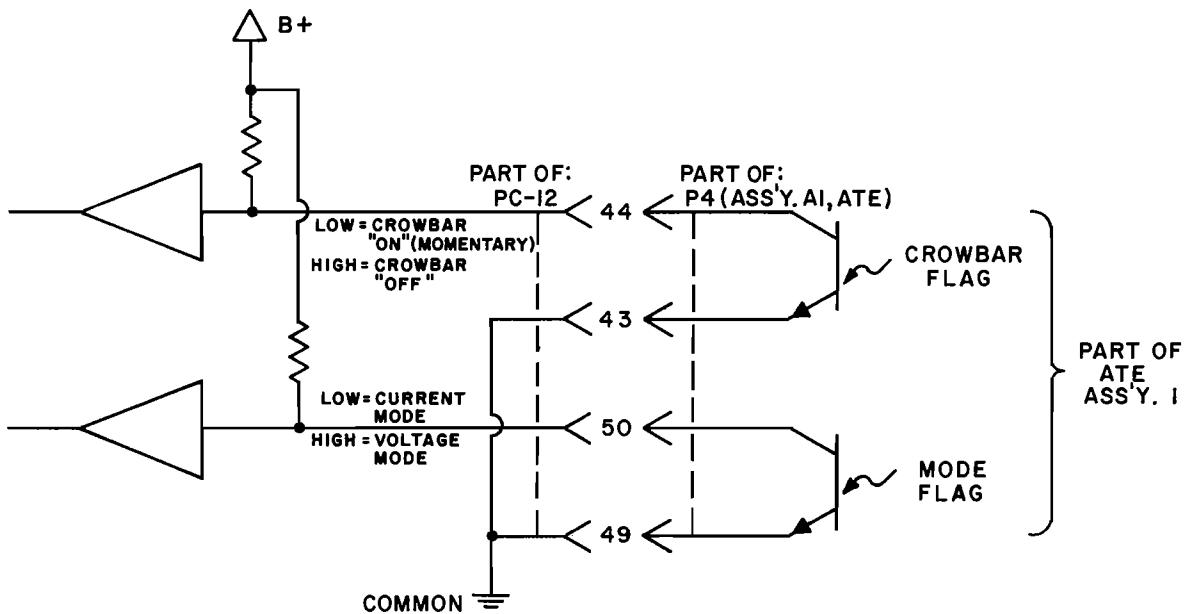

FIG. 3-31 ISOLATED FLAG SIGNAL OUTPUTS.
3-122 Two opto-isolated flag signals are provided at the rear programming connector (PC-12). One of them signals the ATE operating mode (Voltage or Current Mode), the other one provides a signal to indicate that the ATE crowbar has been tripped. Both flag signals consist of the Collector/Emmitter terminals of a Photo-Transistor Optical Isolator and change their impedance from high to low if activated. The ATE flag signals may be converted to TTL logic signals as indicated in FIG. 3-31. The photo transistors are capable of sinking at least one (1) standard TTL load (1.6mA). Since the crowbar flag signal is followed by the shut-down of the ATE power supply, the flag signal is the form of a pulse, rather than a permanent level shift.